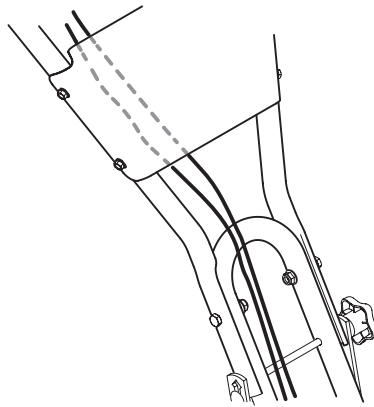

Figure 5
1. Carefully unwrap the cable(s) from the shipping position. To attach the clutch cable(s), feed the cable(s) up the front of the lower right handle and behind the handle panel. See Figure 5.